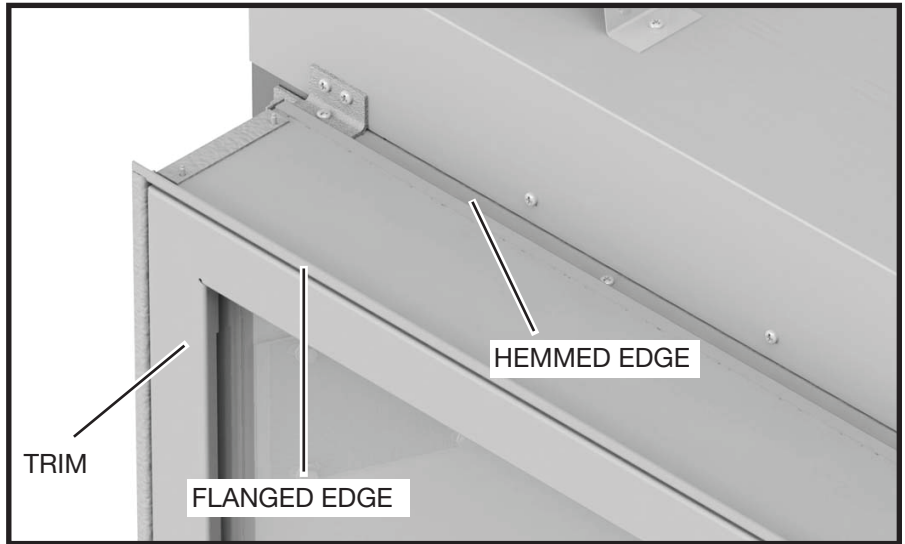

Figure 22: Flanged and hemmed lintel option.
1. Remove the window trim (Figure 22).